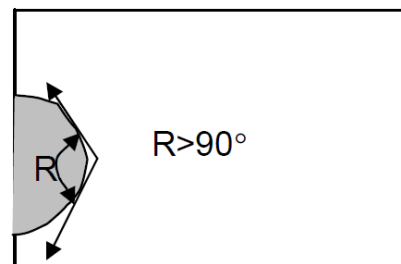

Fig 8
7. All the angle of the broken must be larger than 90° . It is shown in Fig.8 ($R > 90^\circ$).